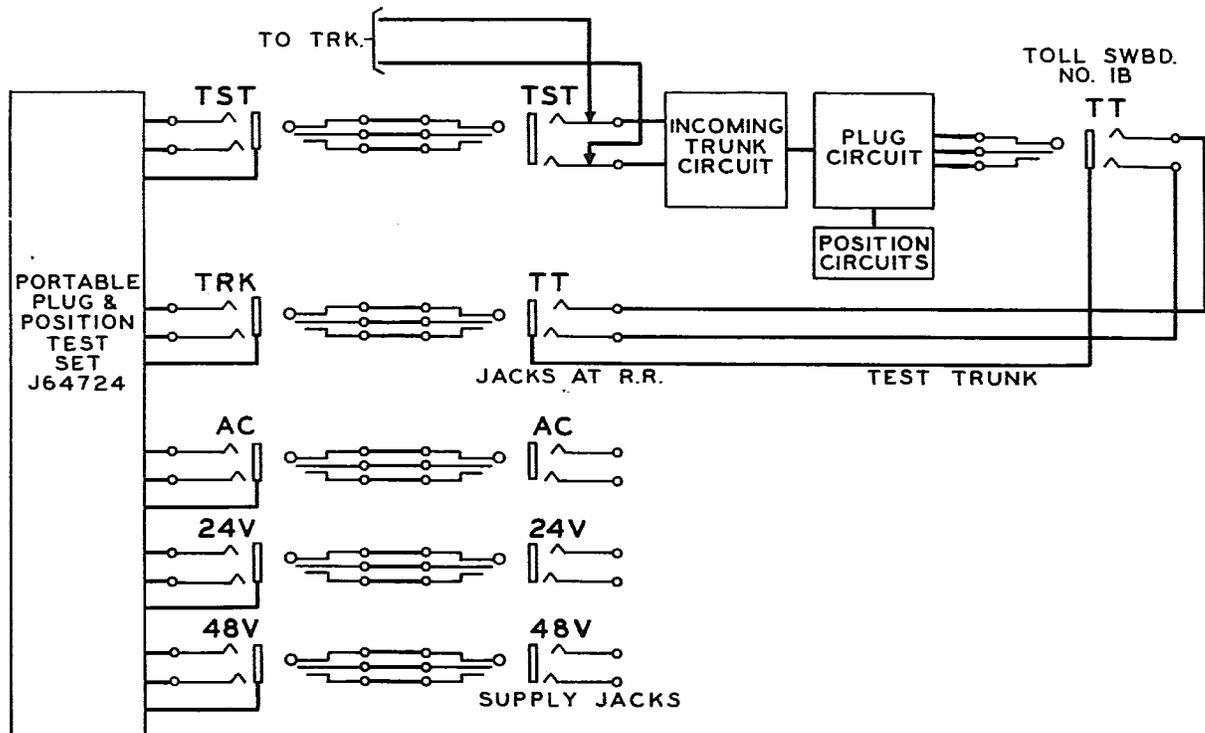

Fig. 2 - Test (C) - Trunks from Manual or DSA Boards Without Call Distribution
Test (C) - Trunks from Manual or DSA Boards, Without Call Distribution (See Fig. 2)